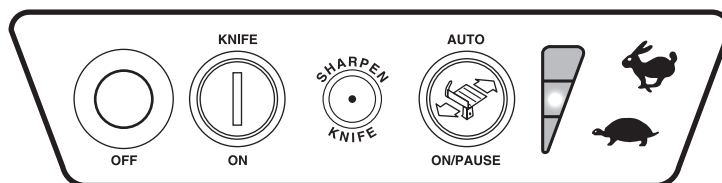

Fig. 10
- Turn the slicer on by pressing the KNIFE ON button (Fig. 10).
- Select one of the three speeds for the PRODUCT TRAY to move back and forth. Press the RABBIT symbol to increase speed; press the TURTLE symbol to decrease speed (Fig. 10). The speed indicator, located to the left of the symbols, shows which speed is selected. You can change the speed at any time.
- Press the AUTO ON / PAUSE button to start slicing (Fig. 10); the PRODUCT TRAY moves back and forth at the speed and at the stroke length you have selected.
- When done slicing, you can stop by pressing either the AUTO ON / PAUSE button or the Off button (Fig. 10). Pressing AUTO ON/ PAUSE returns the PRODUCT TRAY to the home position (all the way toward you).
The CleanCut™ KNIFE will provide long service in normal food retail or commercial kitchen use. **Sharpen only when necessary; prolonged or too frequent sharpening results in unnecessary KNIFE wear.** The SHARPEN KNIFE indicator light (Fig. 9 or Fig. 10) will come on after a factory-preset number of slicing strokes to indicate when sharpening is needed. This number has been set to represent a typical operation. Your operation may need more frequent sharpening.
Remove the TOP KNIFE COVER and the plastic RING GUARD COVER. Turn the LATCH KNOB counterclockwise and lift the TOP KNIFE COVER and plastic RING GUARD COVER off the slicer (Figs. 5, 6 & 7). Thoroughly wash around the KNIFE and both sides of the outer rim of the KNIFE. Food debris should not be allowed to transfer from the KNIFE to the SHARPENER. Plug in the machine power cord. When SHARPEN KNIFE indicator light is on, press and hold the SHARPEN KNIFE button (Fig. 9 or Fig. 10) with your right hand while pulling the SHARPENER LEVER fully forward with your left hand (Fig. 29). The KNIFE comes on, sharpens for 15 seconds and shuts off. Release the SHARPENER LEVER. The stroke counter will automatically reset and the indicator light will turn off. To sharpen before the SHARPEN KNIFE indicator light illuminates: Follow the directions above, but instead of turning on the motor with the SHARPEN KNIFE button, press the ON button for 15 seconds. Then, release the SHARPENER LEVER and press the OFF button. Unplug the SLICER power cord. Wipe the slicer with a clean damp cloth to remove any grinding particles. Reinstall the plastic RING GUARD COVER and the TOP KNIFE COVER.